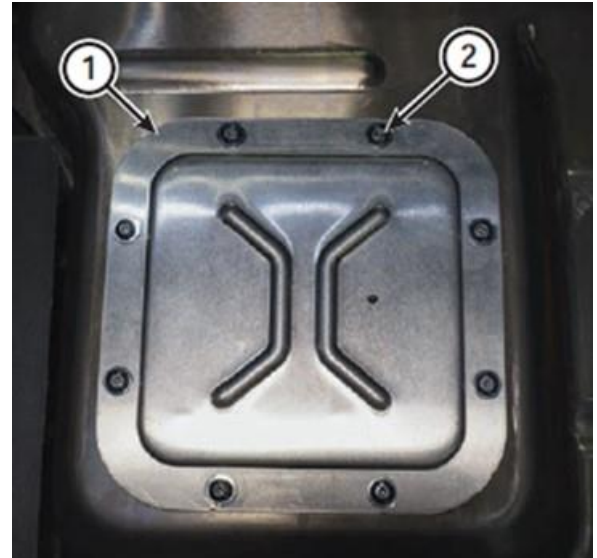

Figure 3 – High Voltage Test Point Access Cover
11. The high voltage service test points access cover (1) is located on the battery pack, under driver side rear seat cushion (Figure 3).
12. Remove the M6 Torx screws (2) from the high voltage service test points access cover (1) (Figure 3).
13. Carefully remove the test points access cover (1) and set in a protected location such that the cover plate alignment and HVIL pins are not damaged (Figure 3).